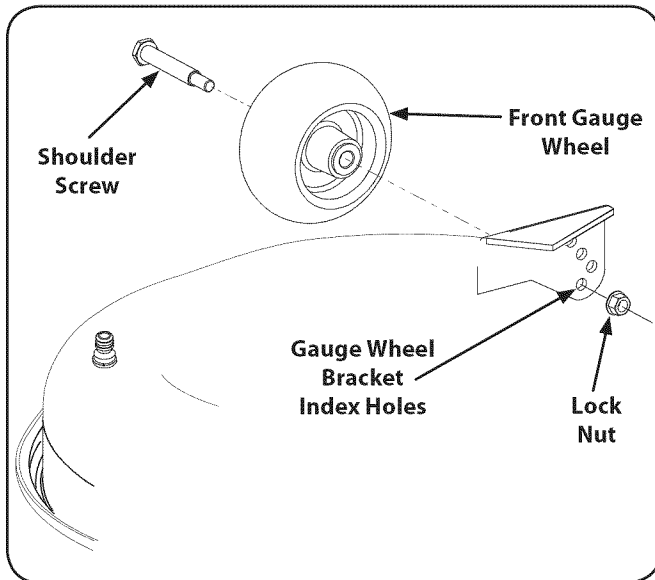

Figure 6-9
- Remove the lock nut securing one of the front gauge wheel shoulder screws to the deck. Remove the gauge wheel and shoulder screw. See Fig. 6-9.